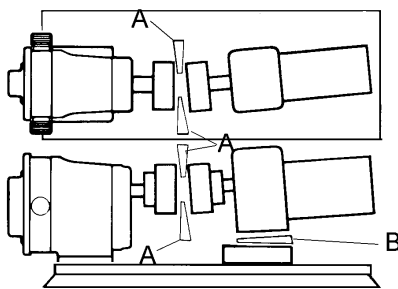

Figure 22 - Check Angular Alignment
- Using feeler gauges or taper gauges (Figure 22, items A and B), check the alignment at four points every 90 degrees around the coupling; **adjust to equal dimension at all points.**